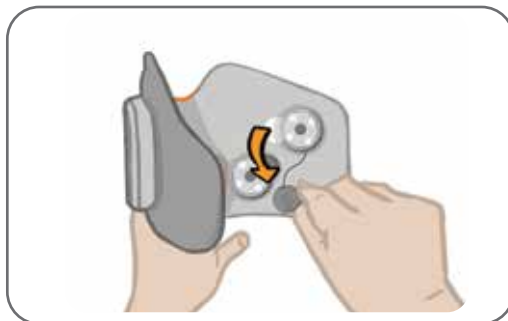

Figure 8-8: Removing the Used Electrode Bases
3. Disconnect the electrode base snaps from the plug holes. See Figure 8-8.
4. Remove the used electrode bases from Lower Leg Cuff. See Figure 8-8.